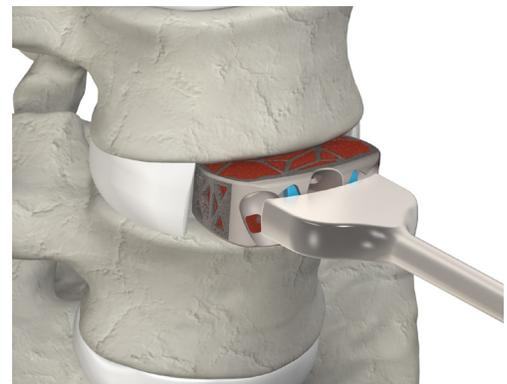

Figure 20
- ▲ Additional implant positioning can be achieved using a tamp (Fig. 20). Two tamps are available in this system: ASTS-SA Tamp (ASTS-SA 100010) and ASTS-SA Guided Tamp (ASTS-SA100011).